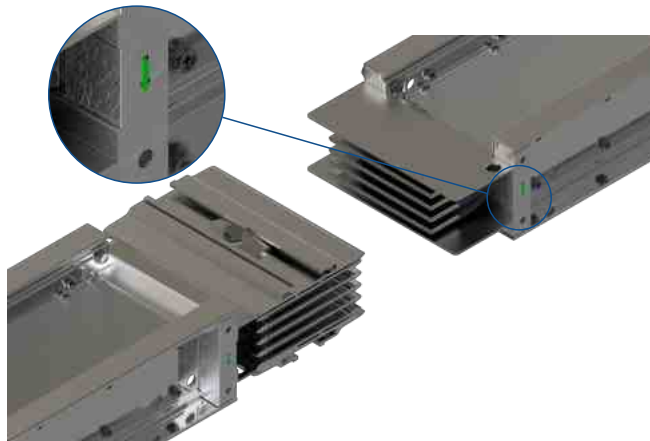

Fig. 7.13.1
1. Align the sections to be joined by matching up the arrow attached to the ends of each section. Use tools provided by manufacturer to ease the installation. Ref. Fig.7.13.1 and 7.13.2